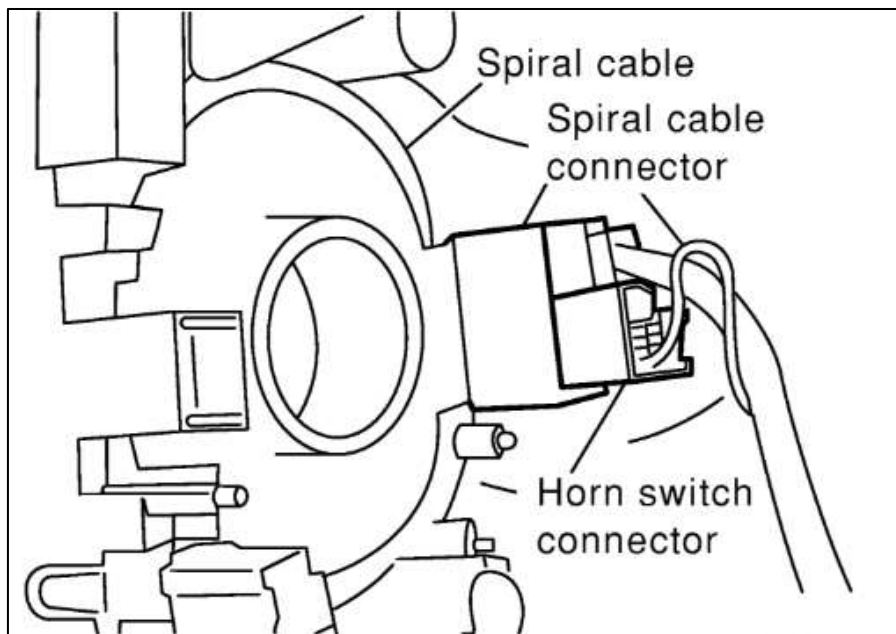

Figure 10
- d. Disconnect the Horn Connector and the Gray Connector for the Button Controls on the Steering Wheel. *Figure 10.*